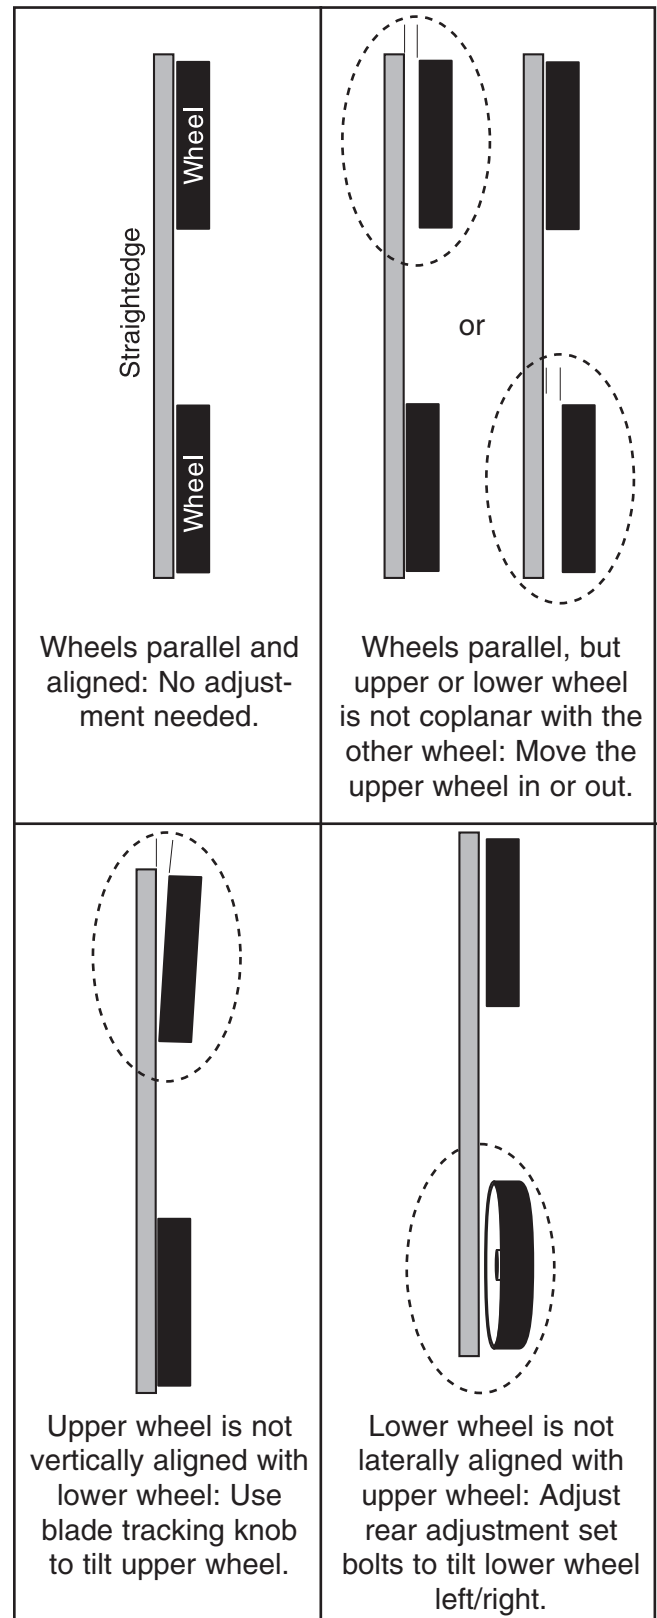

Figure 55. Wheel alignment illustration.
4. Check wheel alignment, and adjust tracking knob to bring both wheels into alignment as much as possible. If wheels cannot be adjusted coplanar, use **Figure 55** to determine how to proceed with alignment adjustments.